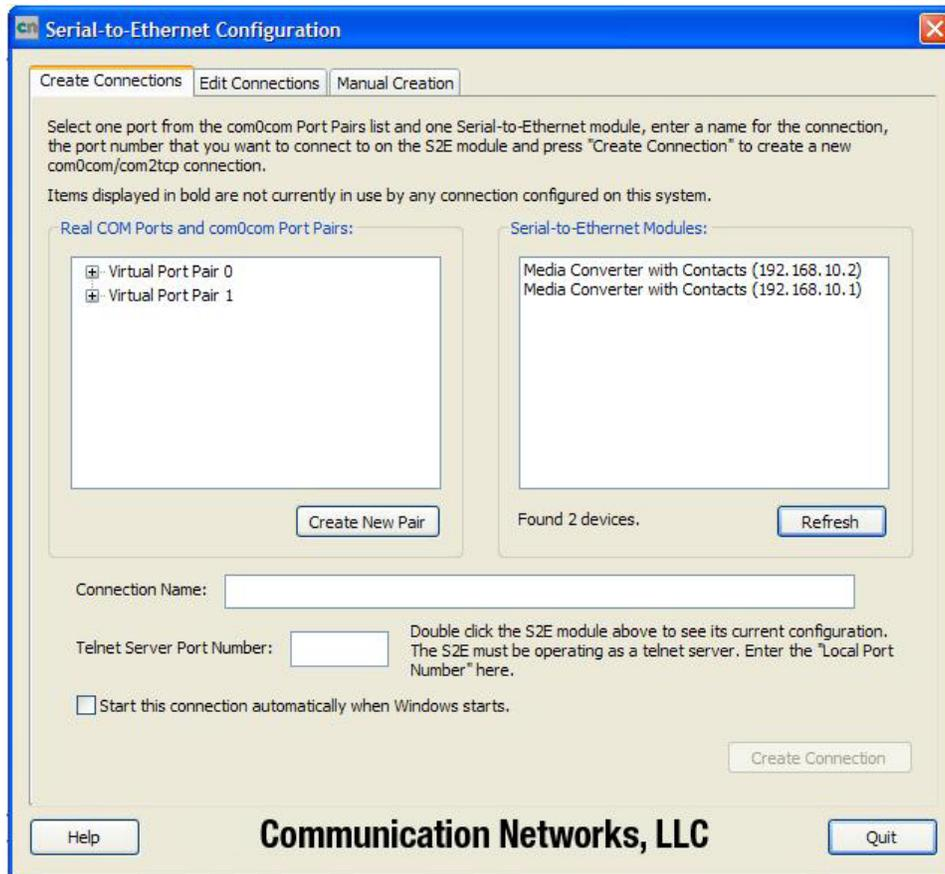

Figure 19 - Main ComNet Contact over Ethernet module Configuration application window
- » Select **Start** ComNet Contact over Ethernet module Configuration application by double click on the icon **cns2econfg.exe**, The “Main ComNet Contact over Ethernet module Configuration application window” appears as shown above in Figure 19.